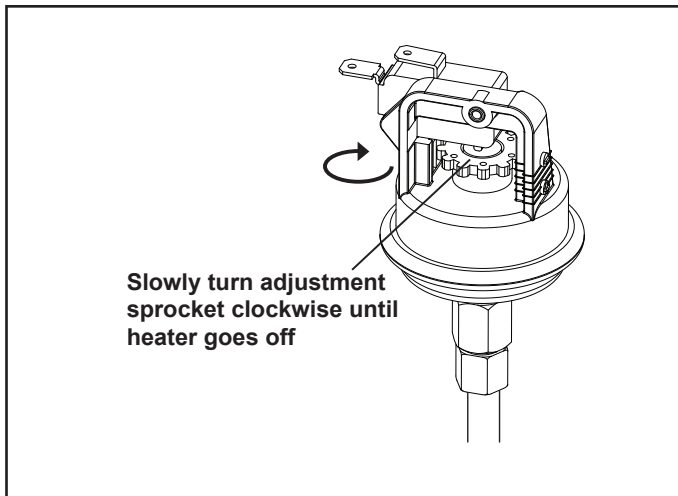

Figure 17. Adjust Pressure Switch
5. With your fingers, turn the adjustment sprocket very slowly clockwise until the heater goes off. (See Figure 17.)